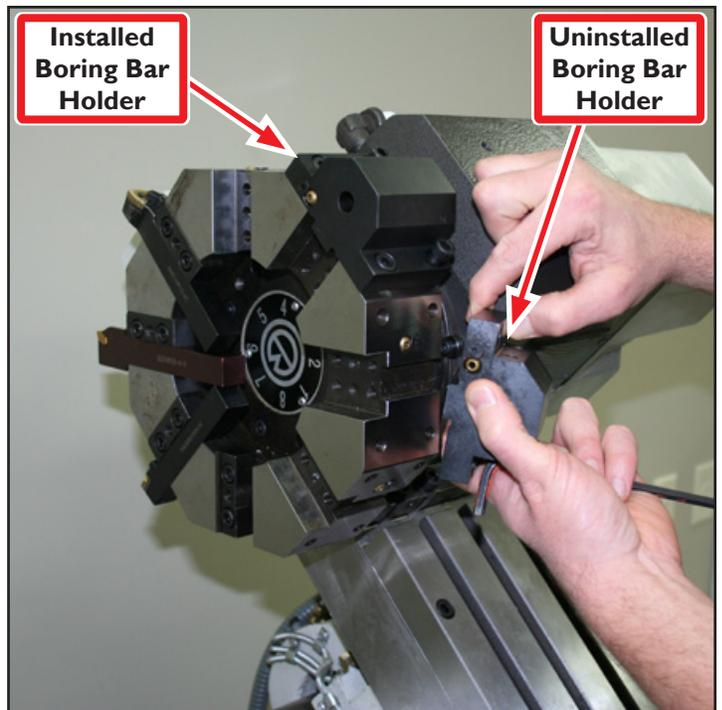

Figure 33
5. Using four M8 x 25 mm Socket Head Cap Screws, install one of three (included) Boring Bar Holders as shown in **Figure 33**; tighten snugly.